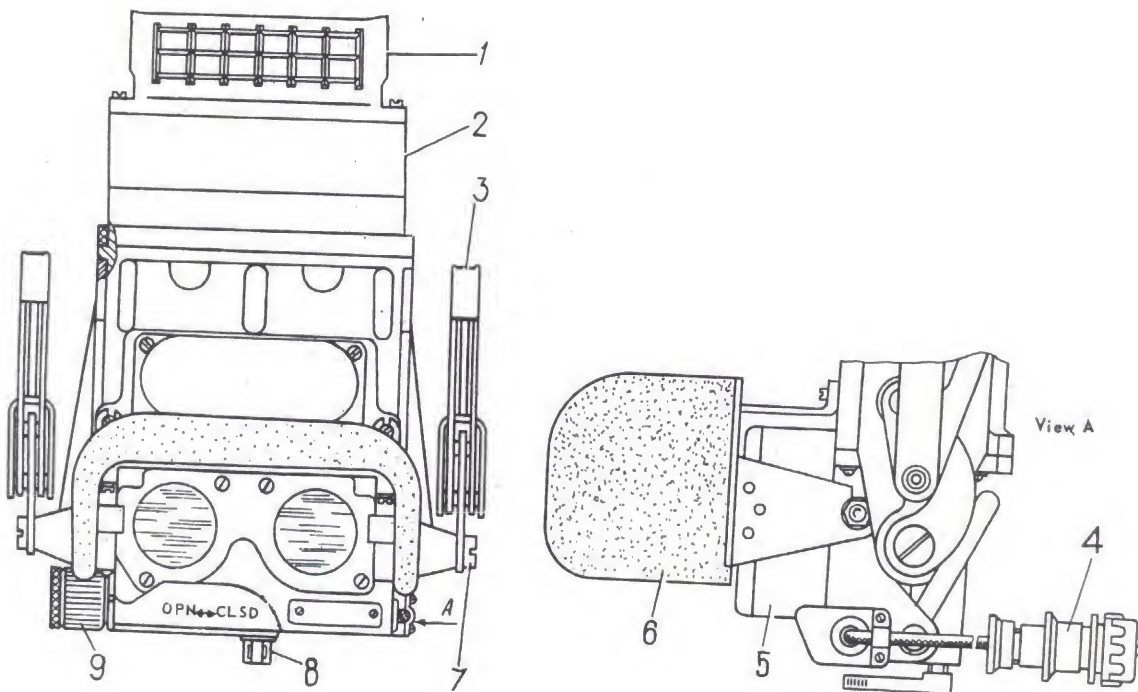

FIG. 101. DRIVER'S NIGHT VISION DEVICE TBHO-26
1. Night vision device TBHO-2E (Fig. 101).